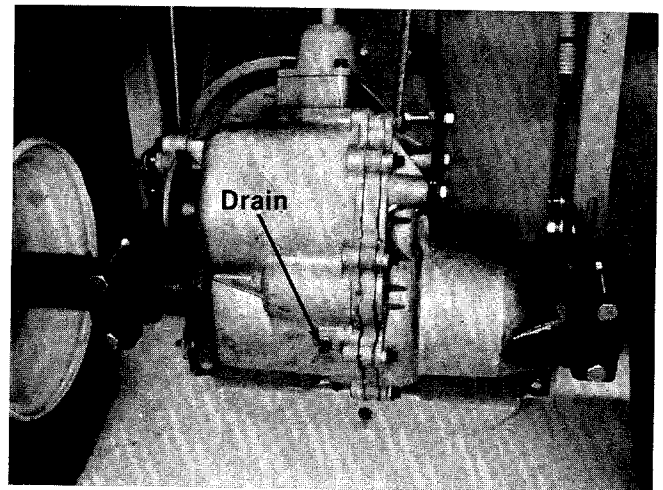

FIGURE 22.
Step 7. **Transaxle.** Check oil level after every 25 hours of operation or once a season. Remove the rear plug to check. Oil should be to the point of overflowing. Drain and change oil every 2 years. Drain plug located on the bottom of the transaxle. It is lubricated with 1½ pints of SAE EP 90 oil. (See figure 22.)